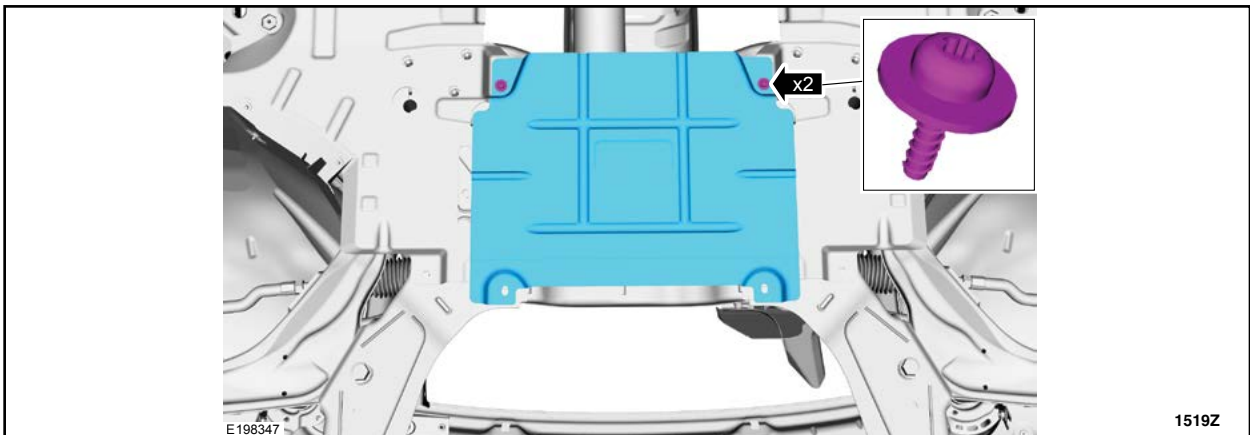

FIGURE 3
2. If equipped, remove the center underbody shield. See Figure 3.
2. If equipped, install the center underbody shield. See Figure 3.